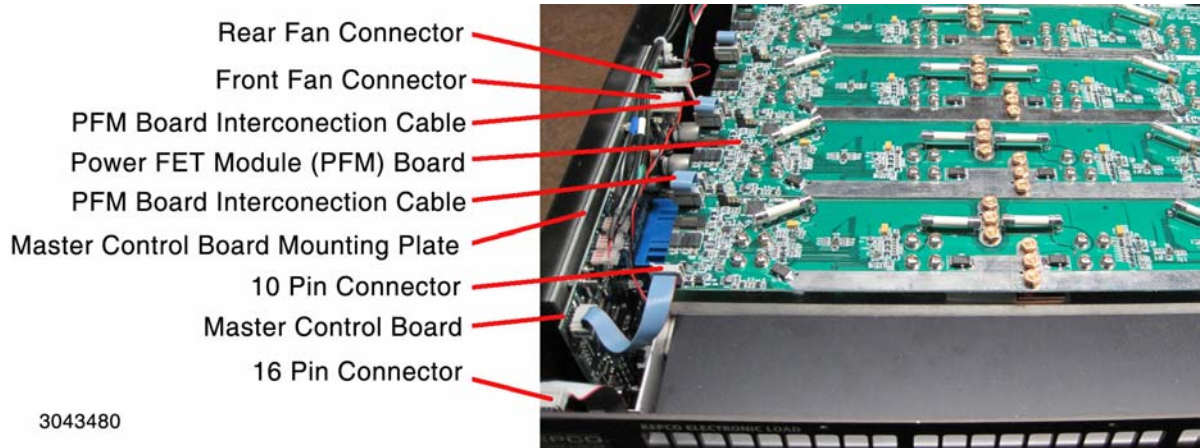

FIGURE 2-5. MASTER CONTROL BOARD REMOVAL, TOP VIEW
3. Refer to Figure 2-5 and remove the Master Control Board as follows:
- e. To allow the transformer on the Master Control Board clearance it is necessary to remove one Power FET Module (PFM) board (see Figure 2-5). Disconnect two PFM board interconnection cables, then remove four groups of four screws (each with one flat washer and one lockwasher) and two sets of brass nuts (each with one flat washer and one lockwasher).